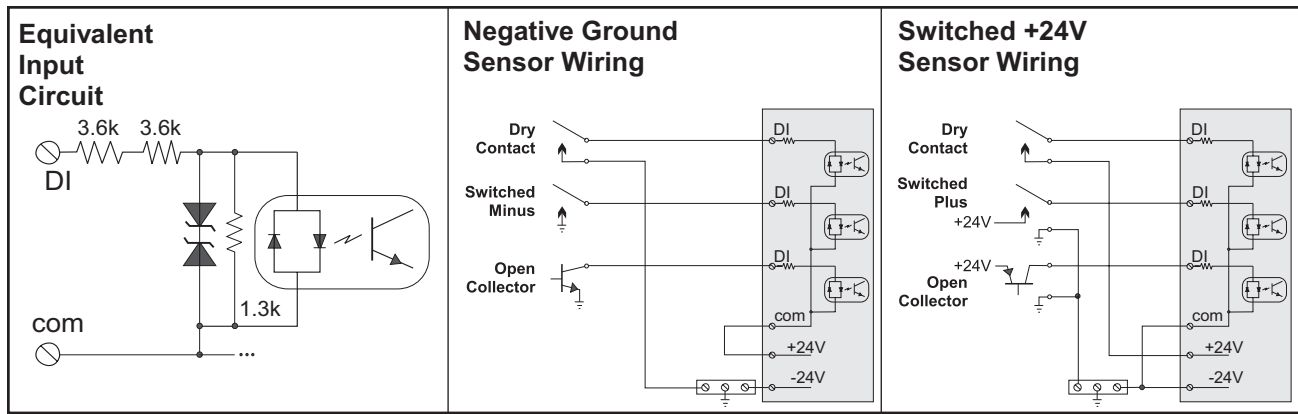

Figure 3. DI Wiring Suggestions
| Figure 3. DI Wiring Suggestions | 4 |
The 16 Digital Input (DI) modules provides 16 wet digital inputs that may also be used as low-speed counters under application control. The V115 low-voltage module accepts voltage inputs in the 10-56 Vac/dc range and provides an isolated 24 Vdc wetting voltage so the open/closed state of dry-contact sensors may be determined—see Figure 3 for wiring suggestions. The V349 high-voltage module accepts nominal 117 Vac inputs. Each of the inputs are opto-isolated from the remaining circuitry on the module to provide the highest possible input surge immunity. The modules utilize plug-in screw terminal wiring connectors as shown in Table 2.
The Mixed Input/Output (I/O) modules provide a combination of features that satisfy the needs of many smaller sites. The modules provides eight wet digital inputs that may be used as low-speed counters under application control. An isolated 24 Vdc wetting voltage is provided so the open/closed state of dry-contact sensors may be determined—see Figure 3 for wiring suggestions. Each of the inputs are opto-isolated from the remaining circuitry on the modules to provide the highest possible input surge immunity.
connected; see Figure 3 for typical sensor connections to the digital inputs. The 24 Vdc voltage source is isolated from ground so that either terminal may be connected to ground. This source is common to all I/O modules so be sure that one module doesn't ground the positive terminal while another module grounds the negative terminal!